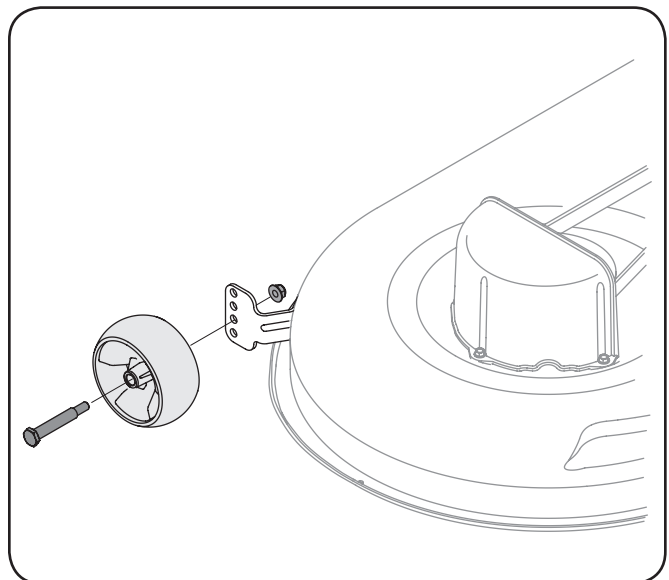

Figure 3-6
- b. Remove the front and rear gauge wheels by removing the lock nuts and shoulder screws which secure them to the deck. See Fig. 3-6.